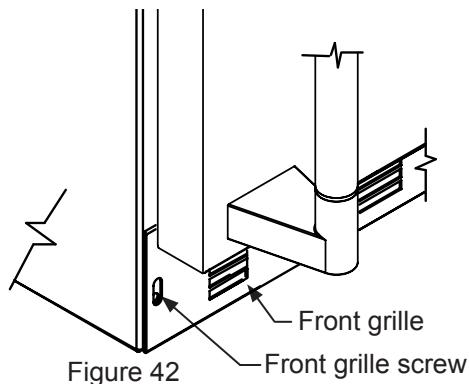

Figure 42
11. Remove the front toe-grille, (see Figure 42 and Figure 43), and use a brush and vacuum to clean dirt and debris from beneath the unit.